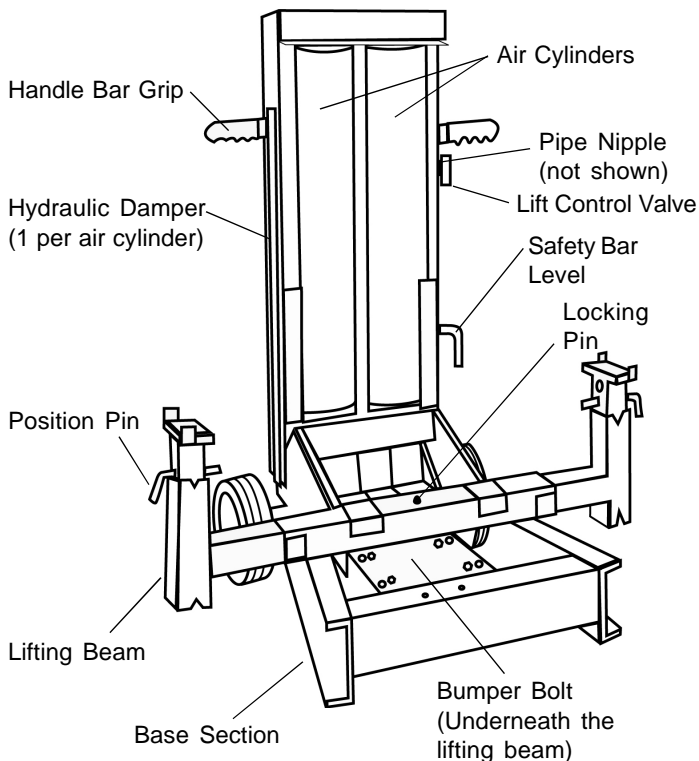

Figure 2. Air Operated End Lift Components
6. Adjust bumper bolt to increase ground clearance. (see Figure 2 on page 4)